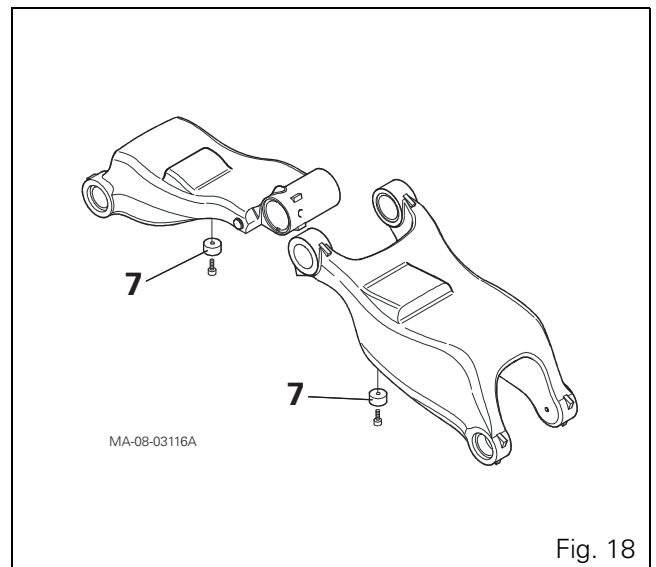

Fig. 18
If shock absorber pads (7) must be replaced, tighten the screws to 10 Nm using a torque wrench (Fig. 18).